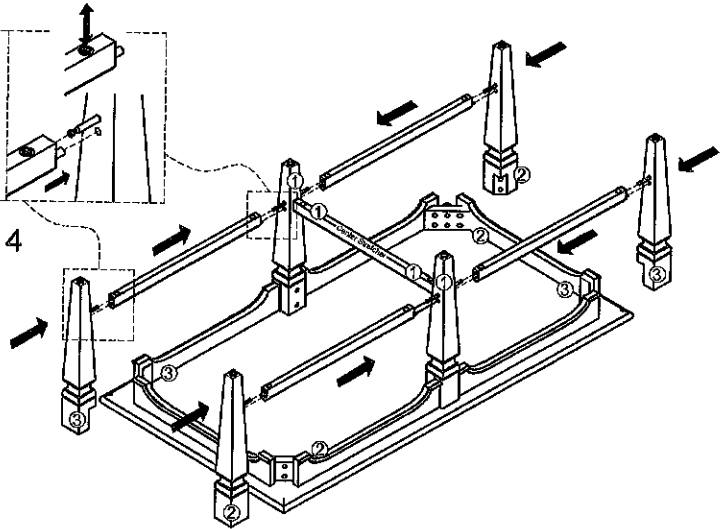

Figure 6
6. Using Screwdriver to connect stretcher on the leg. (See Figure 6). Tighten all bolts with Allen Key (D).